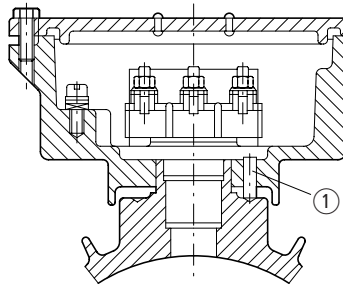

Figure 6: Terminal box with threaded pin ①
- the anti-rotation locking feature using the threaded pin (→ Fig. 6).
Terminal boxes that are fastened as per Fig. 6 must not be rotated back through more than one full turn from the fully screwed down position. Covers that are screwed on using a thread should not be rotated back more than the first locating point from the fully screwed down position. Secure them at this point.